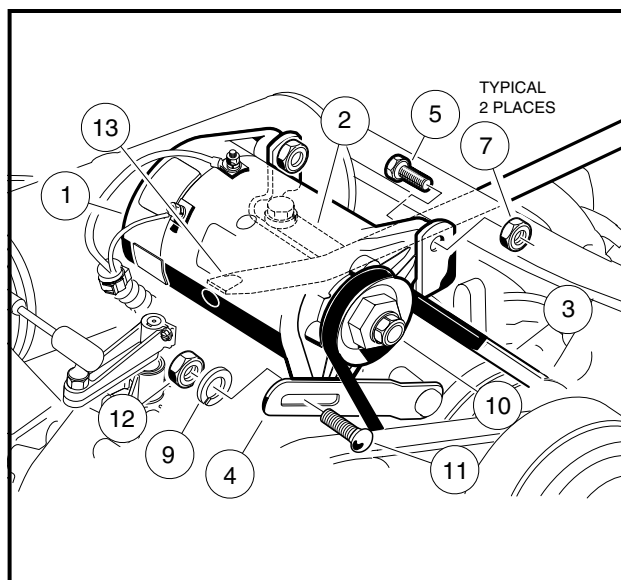
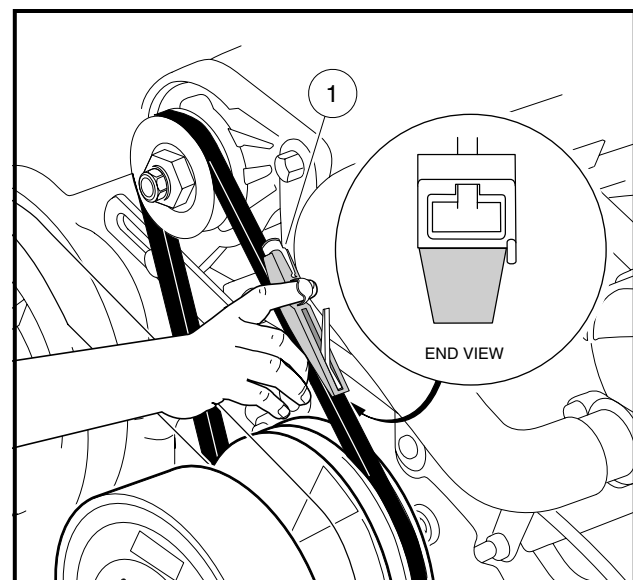

Figure 12-14 Starter/Generator Installation
Figure 12-15 Belt Tension Gauge
2. Install two 3/8 hex-head pivot bolts (5) into the mounting bracket with the heads of the bolts facing towards the driver side of the vehicle. Position the starter/generator in the mounting bracket so that the bolts will go through the starter/generator before going through the bracket. Install a lock nut (7) onto each bolt. Tighten to finger tight (**Figure 12-14, Page 12-12**).
3. Install the adjustment bolt (11) through the adjusting bracket (4) and then through the starter/generator. Install a lock washer (9) and 5/16-inch nut (12) onto the end of the adjustment bolt (11). Tighten to finger tight (**Figure 12-14, Page 12-12**).
4. Install the belt (3), then tighten the mounting bolts. **See Belt Tension Adjustment on page 12-12.**
4. Make sure the two pivot bolts (5) on the mounting bracket are finger tight. The carriage bolt (11) and hex nut (12) are to be finger tight also (**Figure 12-14, Page 12-12**).
5. Push the starter/generator down so it is at the lowest point of its adjustment travel. With the starter/generator belt fully in place around the drive clutch pulley, install the starter/generator belt (3) around the pulley (10) on the end of the starter/generator.
6. Position a pry bar (13) between the top of the starter/generator mounting bracket (2) and the underside of the starter/generator by passing the pry bar under the exhaust header.
7. While holding the pry bar, measure the belt tension using a Krikit® gauge (1) (available at NAPA® Auto Parts stores), or equivalent. Proper tension for a new starter/generator belt should be 75 ft-lb (101.7 N·m) or for an existing belt, 45 ft-lb (61 N·m) (**Figure 12-15, Page 12-12**).
8. While maintaining the tension, tighten the adjustment nut (12) to 12 ft-lb (16.3 N·m). Tighten the two pivot bolts (5) and hex nuts (7) to 23 ft-lb (31.2 N·m) (**Figure 12-14, Page 12-12**). **See following CAUTION.**